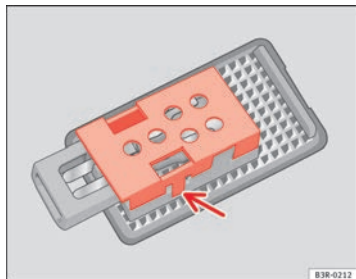

Fig. 225 Luggage compartment light
- Remove the protective cover and remove the bulb from the housing ⇒ fig. 225. ■